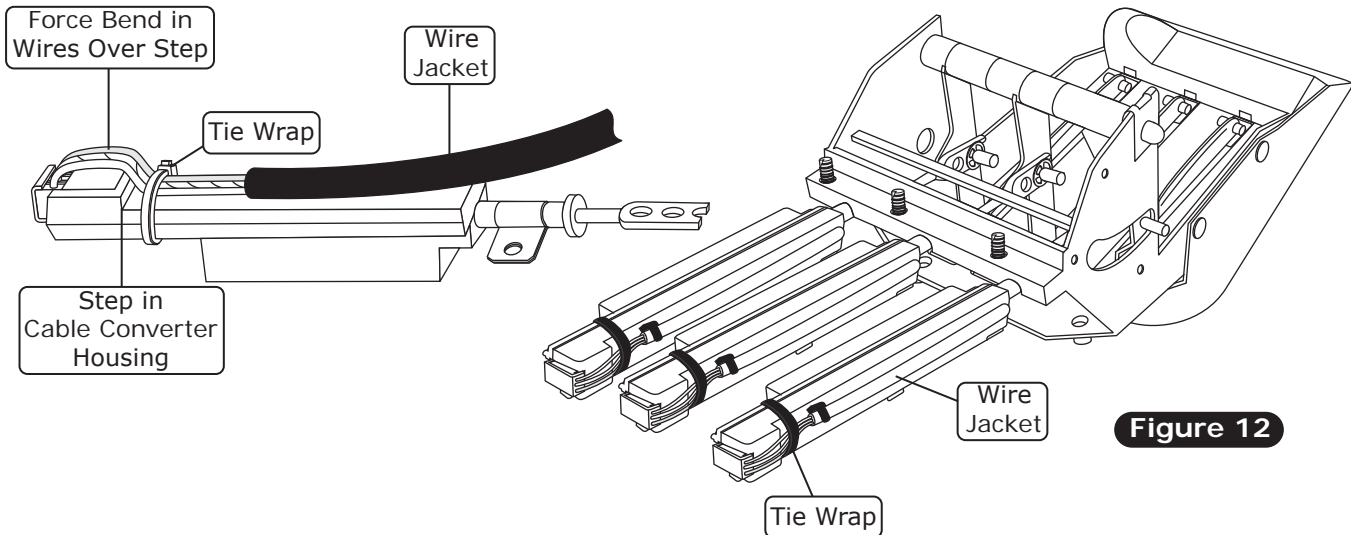

Figure 12
1. Once the connector is correctly plugged into the cable converter assembly, secure the wires to the cable converter assembly using one of the supplied tie wraps. The tie wrap must be located between the end of the wire jacket and the step in the cable converter housing, forcing a bend in each wire as it passes over the step in the cable converter housing. The head of the tie wrap must fall on the edge of the housing to remain tight. Ensure that the tie wrap is tight enough that the wires cannot move (See Figure 12, below).